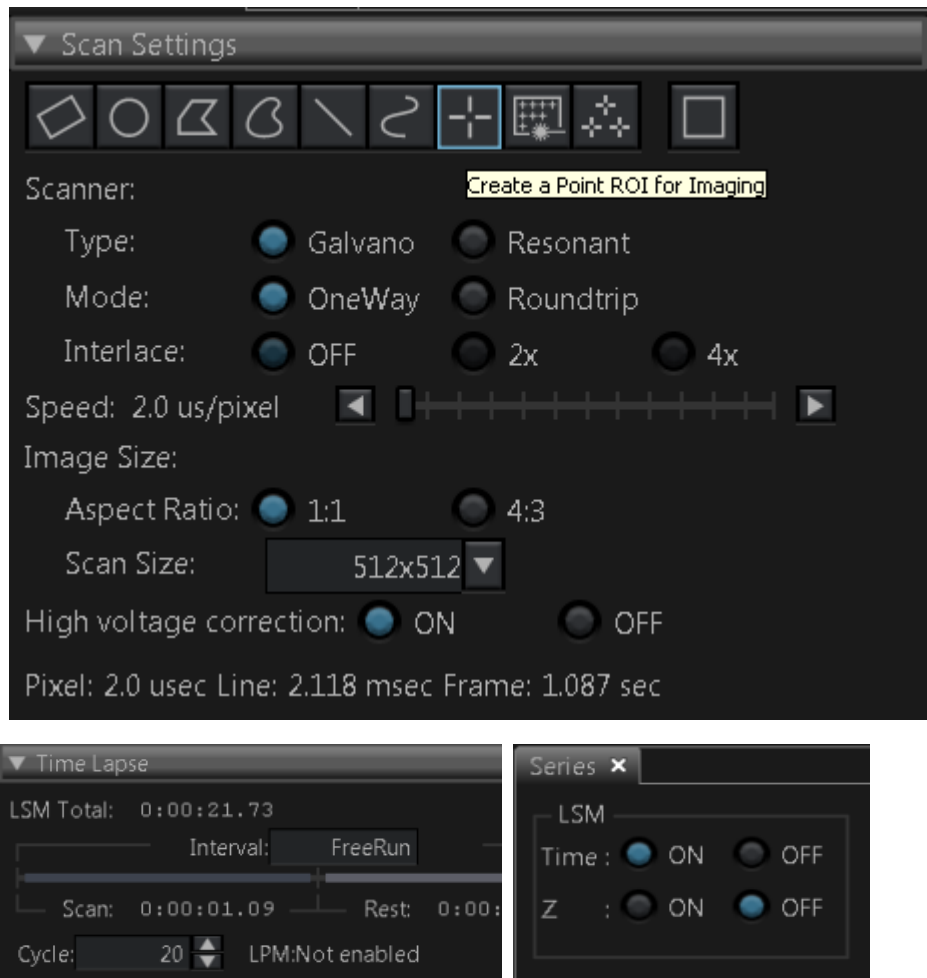

Fig. 2.9: Point Measurement Mode in the FluoView FV3000 software
1. **FluoView FV3000 software:** Select the point measurement mode (cross icon, Fig. 2.9). The measurement time of the point measurement is given by the Frame duration (see Frame, here 1.087s). As lower the scanning speed (here 2 μ s per pixel) and as higher the Scan Size (here 512 x 512), as longer the possible point measurement time. Please select in the “Series” window the setting “Time: ON”. In the “Time Lapse” window you can set a “Cycle” number. The actual point measurement time is calculated by the Frame time multiplied by the Cycle number. In our case this would be 20 * 0.087 s and is displayed in the “Time Lapse” window as “LSM Total” with a value of 21.73s.